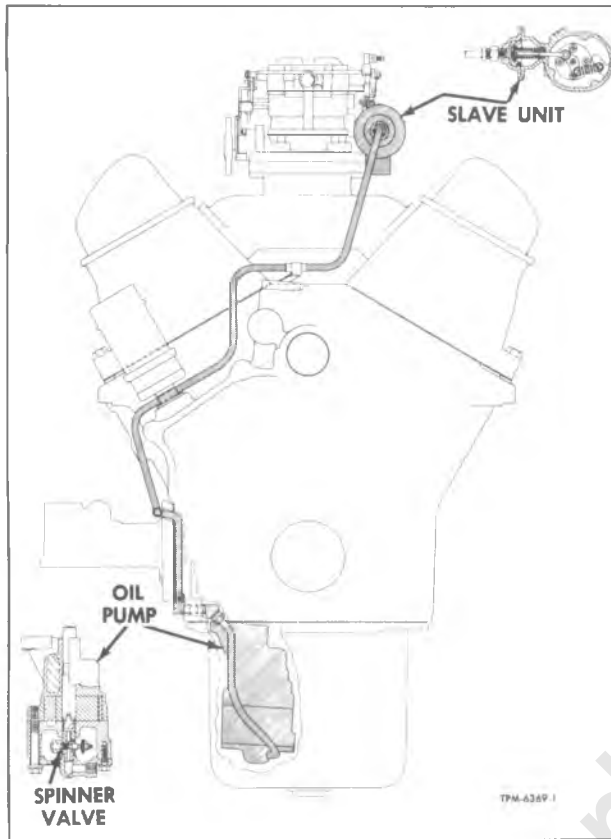

Figure 15—Hydraulic Governor System (Typical)
The hydraulic type governor system consists of shaded items in figure 15. The hydraulic type governor is used as standard equipment on 351-M engines.
If engine speed falls below governed speed, the spring at spinner valve (fig. 15) closes valve and cuts off hydraulic pressure to governor line. With valve closed, line pressure is relieved through slot in side of spinner valve. Bleed hole in valve housing provides correct pressure regulation at diaphragm in slave units. Springs (3 and 4) force diaphragm back to outer position and tension spring (3) returns throttle plates to open position.